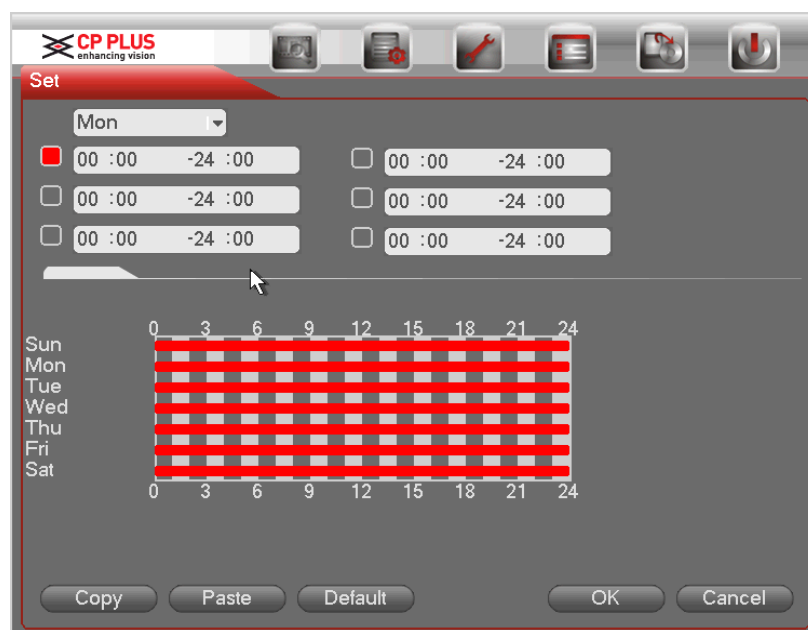

Figure 2-65
- Period: Click set button, you can see an interface is shown as in Figure 2-65. Here you can set motion detect period. System only enables motion detect operation in the specified periods. It is not for video loss or the tampering. There are two ways for you to set periods. Please note system only supports 6 periods in one day.
- ✧ In Figure 2-65, several dates, all checked items can be edited together. Now the icon is shown as shown to delete a record type from one period.
- ✧ In Figure 2-65. date or a holiday, you can see an interface shown as in **Error! Reference source not found.** There are four record types: regular, motion detection (MD), Alarm, MD & alarm.